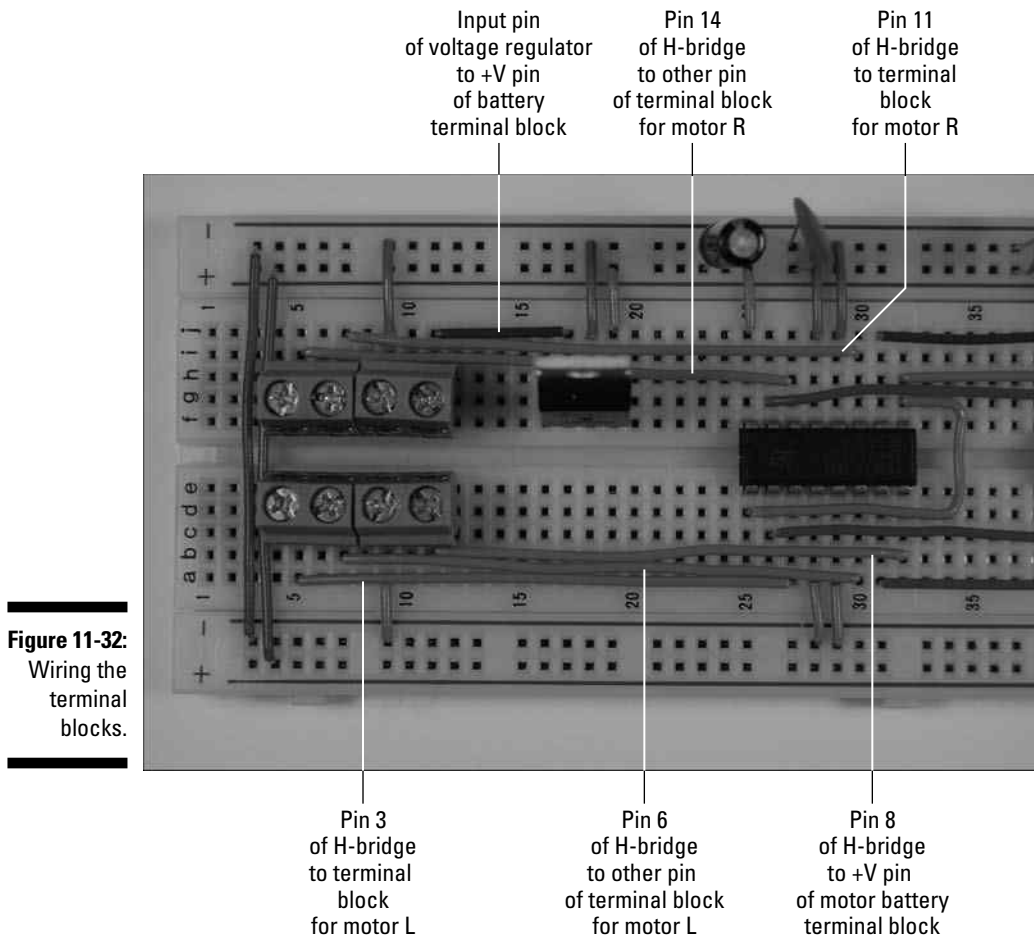

Figure 11-32:
Be sure to leave room between each IC to place wires (as shown in the final figure in this section, the upcoming Figure 11-32). Also, leave room at the end of the board near the decoder to insert the IR detector and the resonator. Finally, leave room at the end of the board near the H-bridge to add terminal blocks.
9. Insert wires to connect the terminal blocks to the H-bridge and voltage regulator, as shown in Figure 11-32.